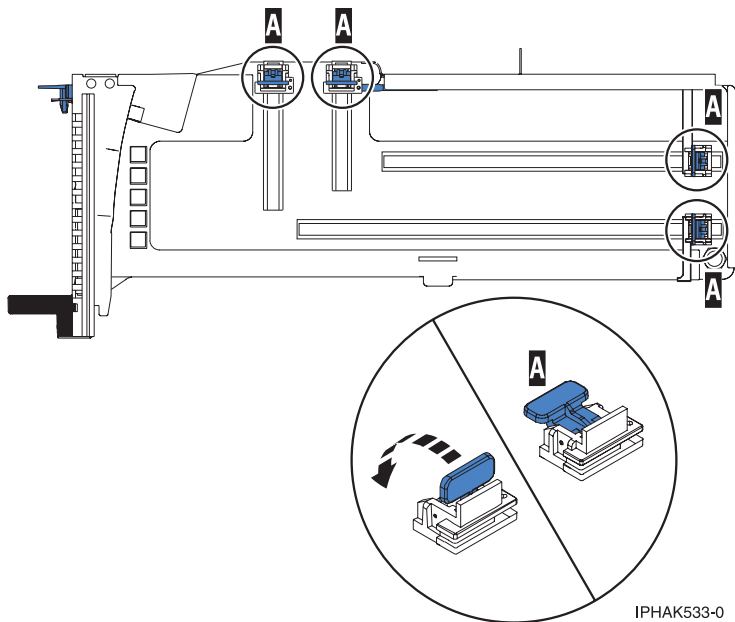

Figure 23. Adapter retainers in a cassette
- a. Ensure that all of the adapter retainers have been pushed out to the edges of the cassette to allow the placement of the adapter. See Figure 23.